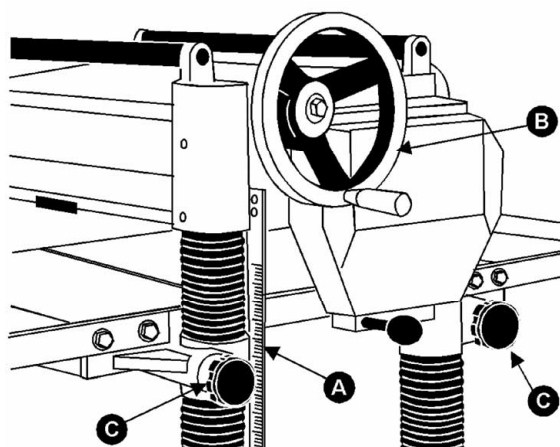
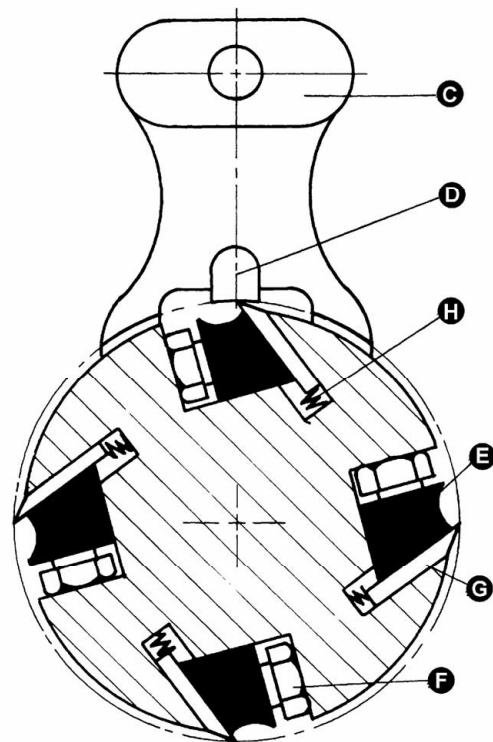

Figure 16
Figure 19 – JWP-208 only
The cutting depth scale (A, Fig. 16) is a combination inch/metric scale with a cutting range from 0 to 8" (204mm). The distance of upward or downward movement is controlled by the handwheel (B, Fig. 16). One revolution of the handwheel is .059" (1.5mm). Before moving the table up or down, loosen the lock nuts (C, Fig. 16). After obtaining the proper table position, tighten the lock nuts (C, Fig. 16).
3. To check and adjust knives, use the provided knife gauge (Fig. 19 & 20) and check all four knives. Knives should just contact the bottom of the center protrusion (D, Fig. 19) of the knife gauge.
4. If an adjustment to one or more of the knives is necessary, slightly loosen the knife gib (E, Fig. 19) by turning the six locking screws (F, Fig. 19) into the gib. Turn the screws just enough to relieve stress in the cutterhead without disturbing the setting of the knives. Do this for all four knives at the same time.
5. With the gauge in place over a knife (G, Fig. 19) continue to loosen the locking screws (F, Fig. 19) until the springs (H, Fig. 19) begin raising the knife. When knife comes into contact with the center protrusion (D, Fig. 19) of the gauge, snug up the gib by lightly backing out the six locking screws (F, Fig. 19) against the slot.
7. After all four knives are set with screws just snug, back out and tighten the six locking screws (F, Fig. 19 & 20), against the slot starting with the end screws first, then the center screws, until the knife is securely held in the cutterhead. Tighten remaining three knives in the same manner.
3. To remove knife, loosen the gib (E, Fig. 19) by turning the six locking screws (F, Fig. 19) into the gib. Remove gib (E, Fig. 19), knife (G, Fig. 16) and springs (H, Fig. 19). NOTE: The inner two springs may pop out when the knife and gib are removed.
8. Place knife gauge (C, Fig. 19) over knife.
9. While holding down on the knife gauge, loosen all six locking screws (F) by turning them into the gib (E) until cutting edge of knife comes into contact with the protrusion (D) of the gauge. Snug up the gib by slightly backing out the six locking screws against the slot.